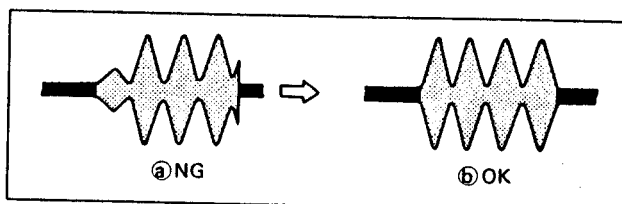

Fig. 2-41.
- 3) In REV mode, monitor the waveform (See Fig. 2-41.)
- When the waveform is no good (as shown in Fig. 2-41. a), perform height preset steps of "Presetting Height of No.4 Guide" then go to the step 4) below.